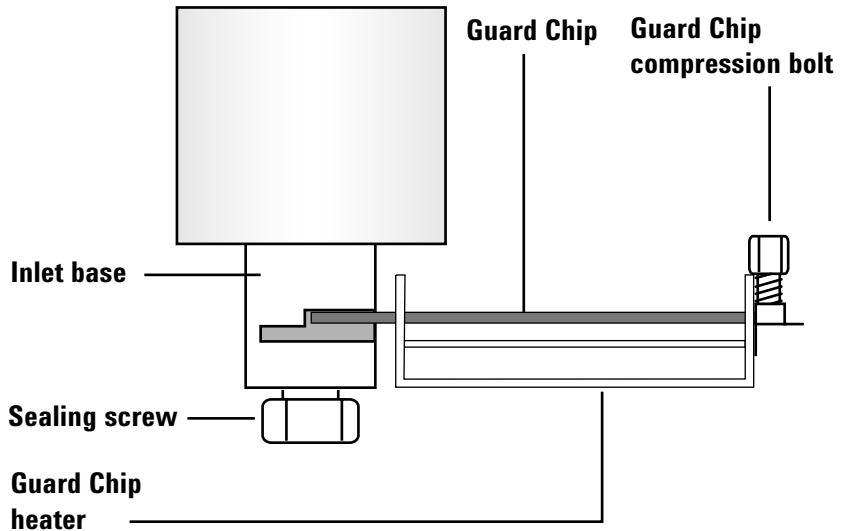

Figure 2 Simplified diagram showing Guard Chip mounting location and orientation (not to scale)
- 9 Using the Intuvo torque driver, loosen the Guard Chip compression bolt. See the simplified diagram below (Figure 2).